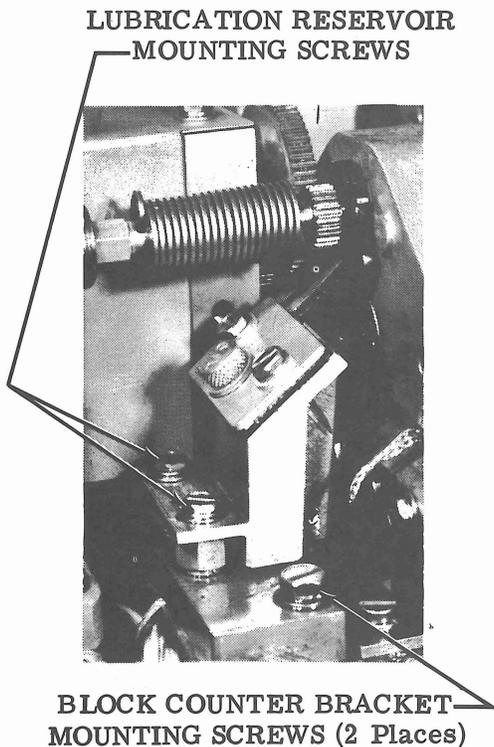

Figure 5 - Lubrication Reservoir and EDC Mounting Block
**EDC BLOCK COUNTER ASSEMBLY (Figures 5 and 6)**